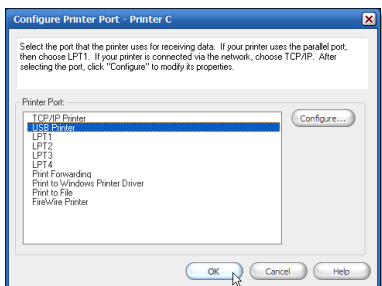

Figure 2—Configure Printer Port
3. Click **Configure Port** to display the Configure Printer Port dialog (see Figure 2).